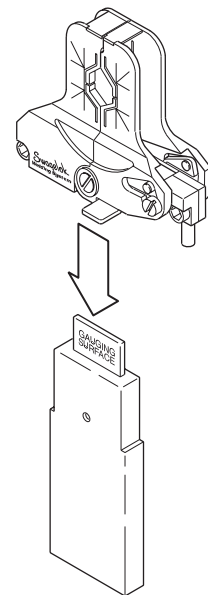

Figure 13 Inserting Centering Gage
1. Locate the centering gage. Turn the gage so the labeled side faces the part to be installed first. Insert the gage into the fixture. See Figure 13.